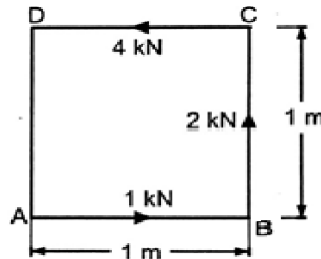

Fig. No.2
- a) Calculate the moment of all three forces acting along the sides of square as shown in Fig. No.2 about point C.